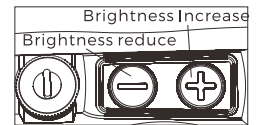

Fig 5
1. Switch on (see Fig5) : Press and release either brightness button ("+"or"-") to turn on the sight.